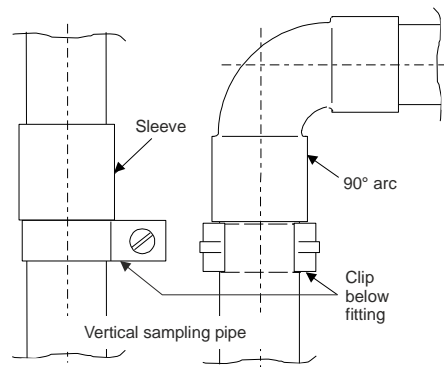

Fig. 34 Vertical sampling pipe
- If the sampling pipe or parts thereof are laid out vertically (e.g. in a riser), make sure the tubes cannot slide down (secure clips directly below the fittings as shown in Fig. 34).